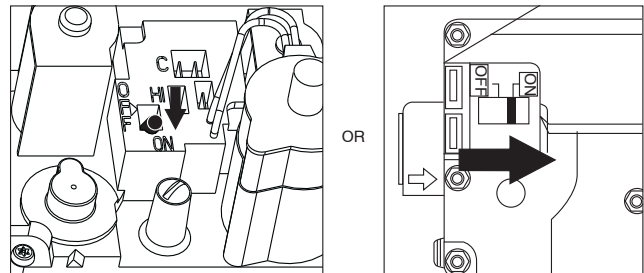

Fig. 9 - Control Switch to ON
7. Turn the control switch to ON. See Fig. 9.